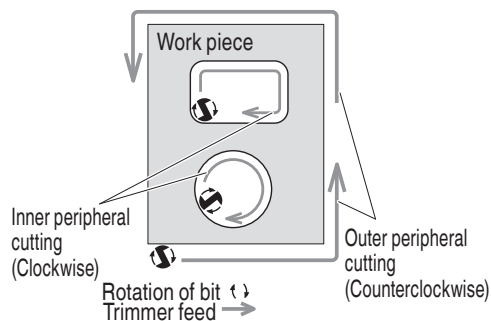

Fig. 30
- (2) The bit rotates clockwise (arrow direction indicated on the base ass'y). To obtain maximum cutting effectiveness, feed the trimmer in conformance with the feed directions shown in Fig. 30.